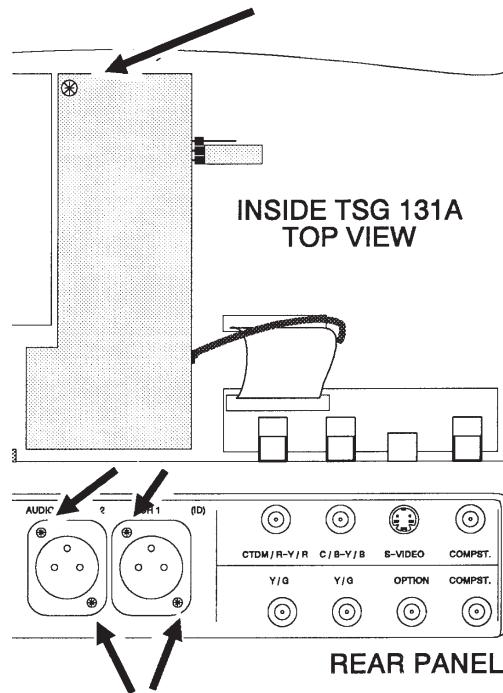

Figure 7-1: Remove 5 screws with Pozidriv screwdriver to remove audio board
3. Using Figure 7-1 as a guide, remove one screw from the audio board and four screws from the rear panel audio tone connectors (five screws).